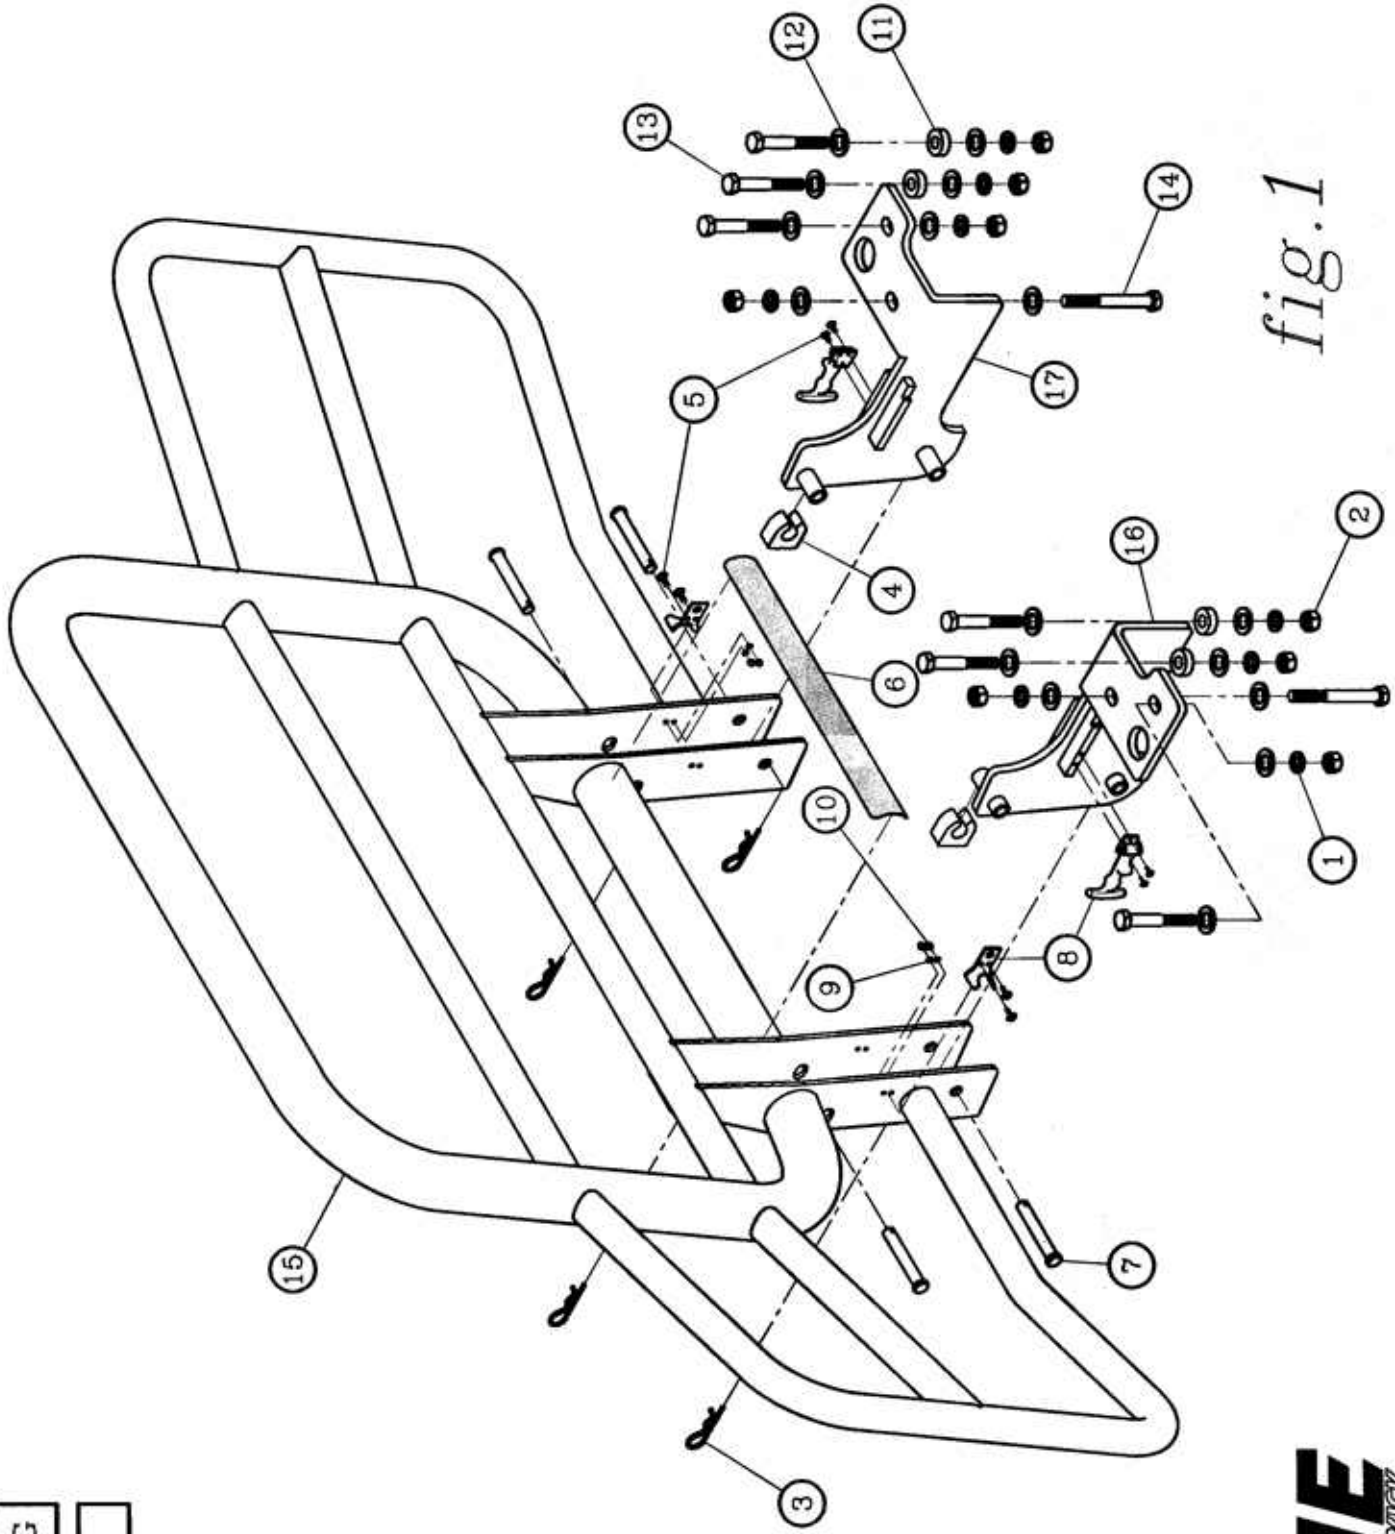

fig. 1
1. PLEASE READ ALL INSTRUCTIONS COMPLETELY AND CAREFULLY PRIOR TO INSTALLATION. REFER TO FIGURE 1 (PAGE 5) FOR INSTALLATION OF GRILLE GUARD. INSTALLATION MAYBE EASIER WITH ENTIRE HOOD REMOVED TO OBTAIN ACCESS TO THE FRONT MOST BOLT ON THE TOW HOOKS WHICH IS LOCATED IN A CHANNEL DIFFICULT TO ACCESS OTHERWISE.